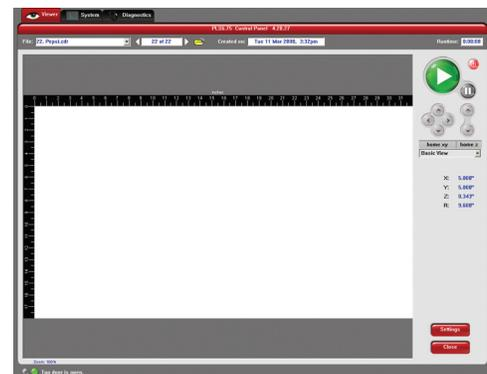

Figure 6
8. Click on the PLS system icon on the taskbar and the current print job will appear in the Viewer Tab of the Universal Control Panel (Figure 6).
4. Click the green START button on the UCP to begin laser processing (Figure 6 on previous page).